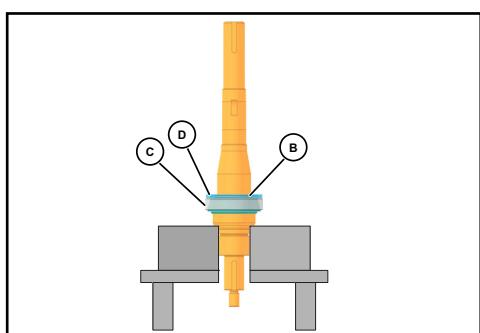

Figure 49 - Inner &amp; Outer Spacer and Lower Cup
4. Place the inner spacer (Figure 49, item B) over the shaft onto the lower cone and roller assembly.